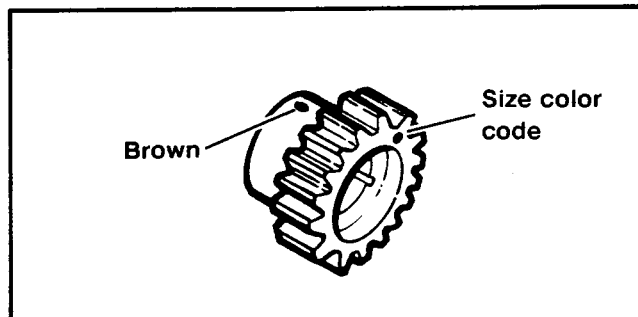

Figure 1. Gear Marking
3. See Figure 1. The gear color code is marked on the face of the gear with one or two dabs of paint. The replacement gear you will receive from Harley-Davidson must have the same color marking. In addition the replacement gear will have a brown dot on the gear hub to avoid any possible gear mix-up by your technicians.